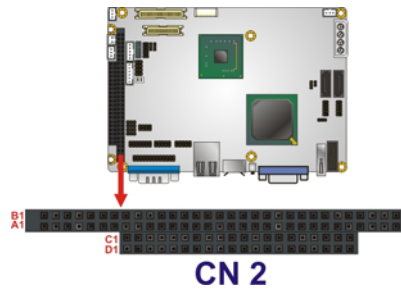

Figure 3-16: PC/104 Slot Location
- CN Location:** See **Figure 3-16**